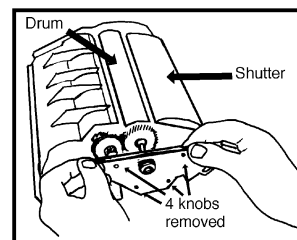

Figure 1
1. Turn the cartridge upside down, with the hopper away from you. Use an X-acto knife to cut off the four plastic rivets holding the drum axle plate on. Next, drill a hole (1/8") where the plastic rivets were. (The end plate will later be secured with screws). Remove the end plate (Fig. 1).